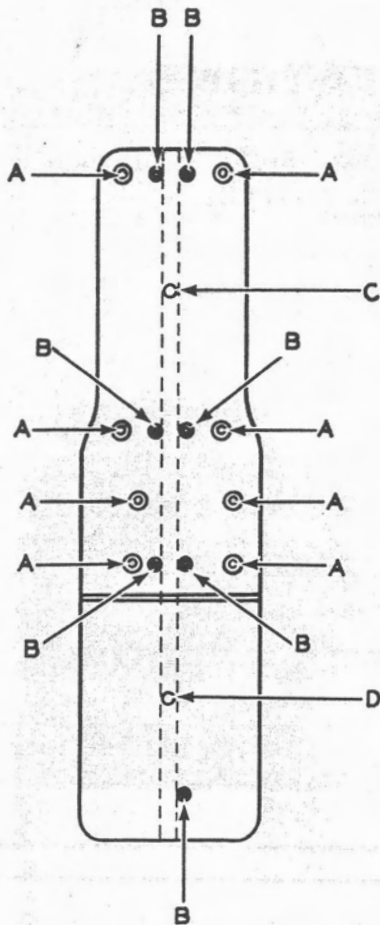

Figure 2. Backboard.
- (b) Mark through backboard holes B onto wall (figure 2).